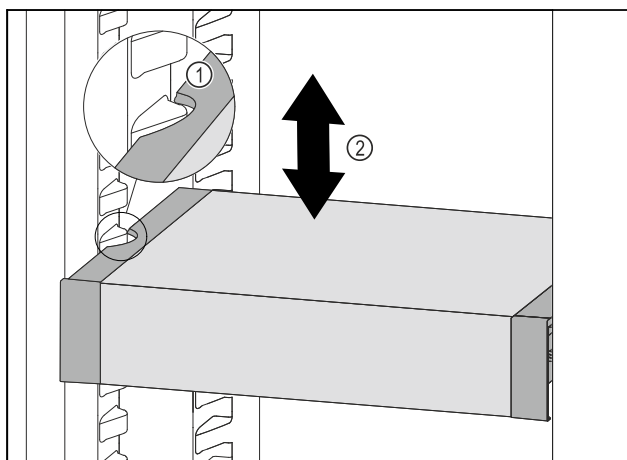

Fig. 103
- Pull VarioSafe forwards until the recesses in the side of the VarioSafe are at the level of the support rib in the refrigerator compartment. Fig. 103 (1)
- Move VarioSafe up or down in the refrigerator compartment until the desired height is reached. *Fig. 103 (2)*